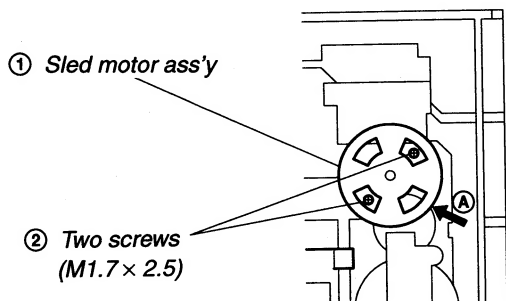

Fig. 8
- 1) Push the sled motor ass'y ① toward direction ①A. (See Fig.8)
- 2) Tighten two screws ② (M1.7 × 2.5).